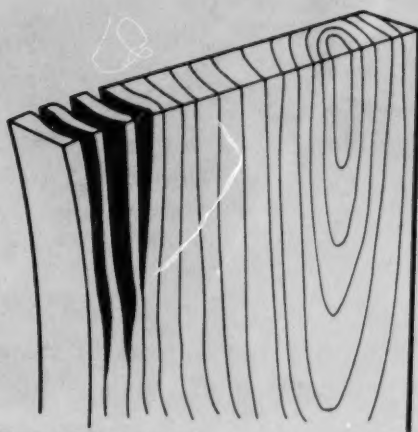

Figure 5-24 A split-out
6. Stop. If the plane is pushed all the way across the end of the board, the blade will catch on the far end, and the edge will **split out** as shown in Figure 5-24.